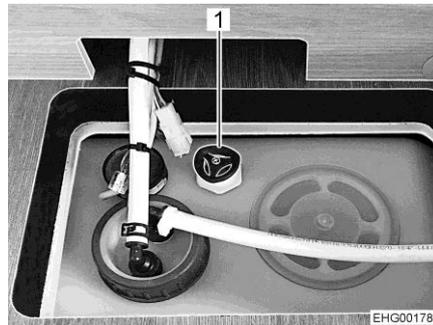

Fig. 143 Water tank with rotary handle
- Turn the rotary handle (Fig. 143,1) on the water tank in an anticlockwise direction as far as possible beyond the resistance to fully open the drainage opening.